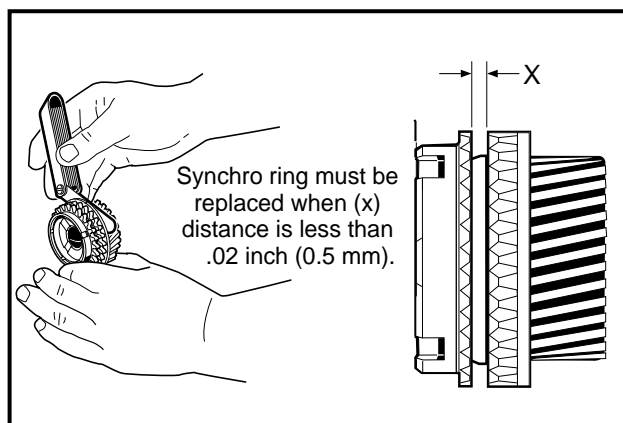

Figure 16-53 Synchro. Ring
5. Using a feeler gauge, measure the distance X at several points around the assembly. The synchro ring should be replaced when X is 0.02 inch (0.5 mm) or less (Figure 16-53, Page 16-24).